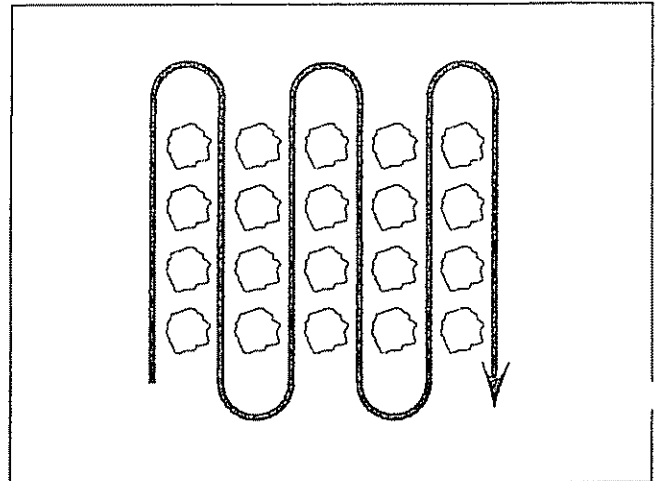

FIGURE 13
- Place Throttle Control in slow position (midway between "FAST" and "IDLE"). Cultivate up and down the rows at a speed which will allow Tines to uproot weeds and leave the ground in rough condition, promoting no further growth of weeds and grass (Fig. 13).